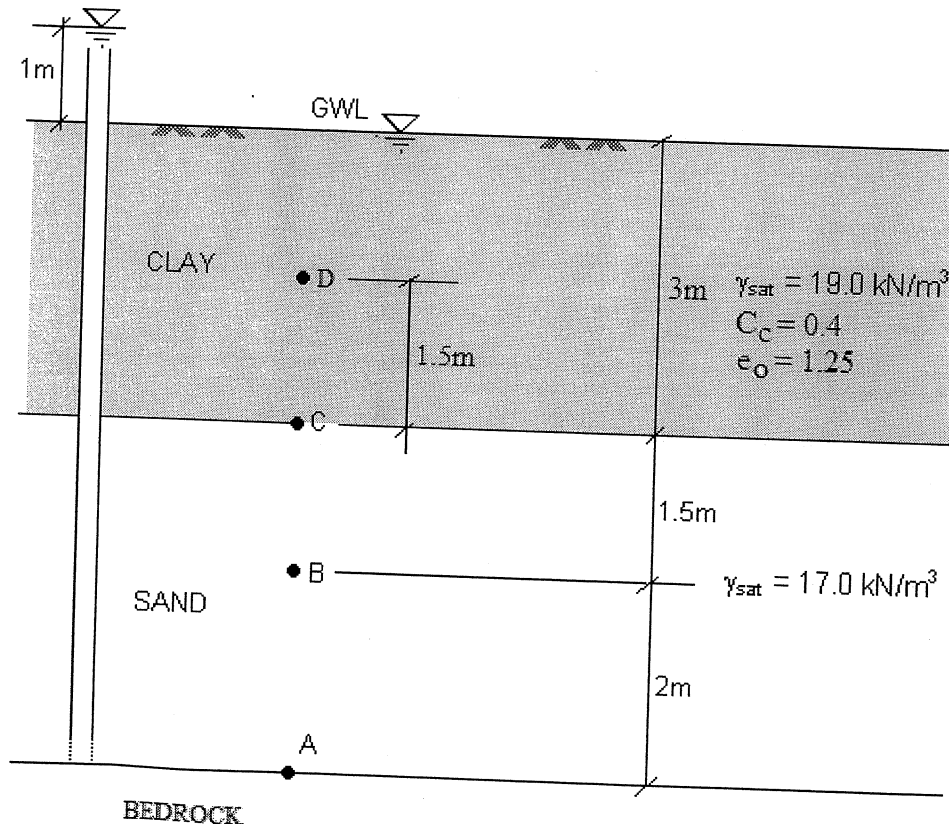

Fig. 3
3. Fig. 3 shows a soil profile where a sand layer is in an artesian situation.